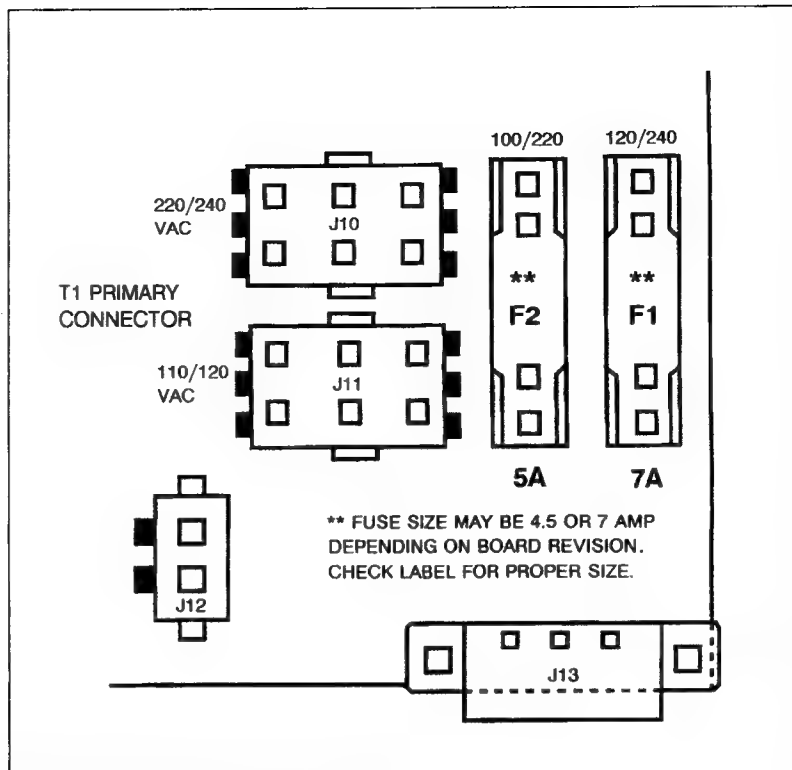

Figure 2-23. Input Power Selection
- c. The printer may be configured to operate with either a 100, 120, 220, and 240 Vac source (see Figure 2-23). Configuring the printer input power requires the installation of transformer T1 primary (six pin connector) into either J10 (220/240) or J11 (100/120), and the installation of a fuse in position F1 or F2 (for fuse size see label on board). Verify that the primary of transformer T1 and the fuse are installed in the correct positions corresponding to the input power source.
- g. Connect the power cord to the printer and set the ON/OFF power switch, at the rear of the printer, to the ON (1) position.